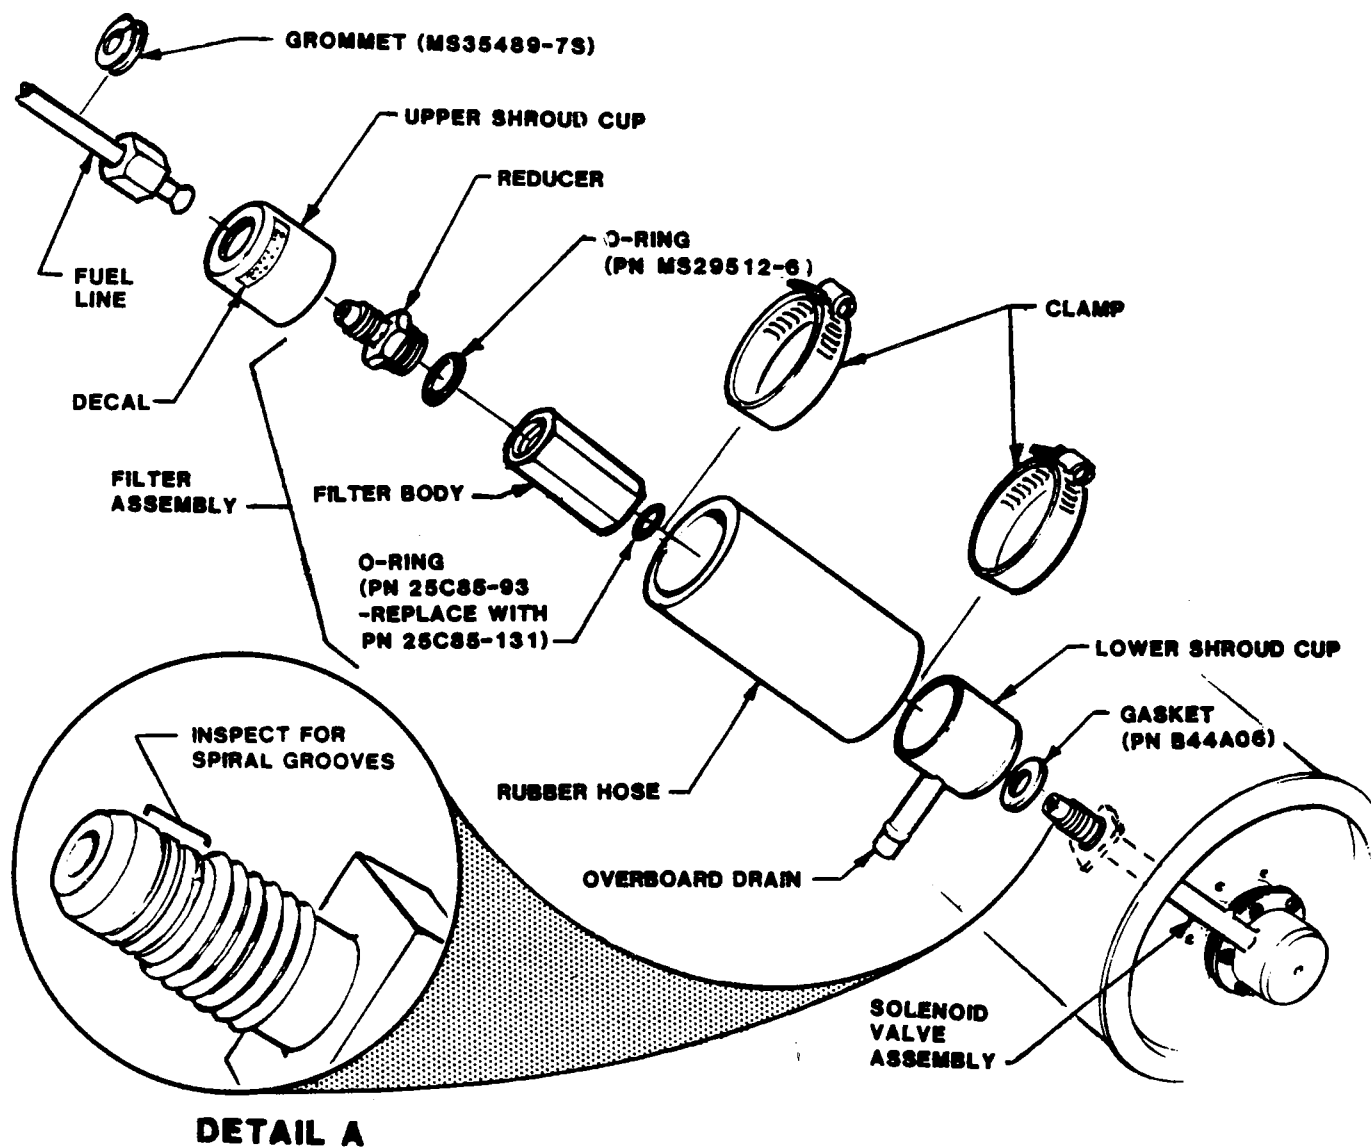

Figure 2. Typical exploded view
PREFACE: The O-ring PN 25C85-93 used in the filter assembly provides a marginal amount of compression. To insure against fuel leakage it is being replaced by O-ring PN 25C85-131 which offers greater compression. Also there was a small percentage of heaters produced with spiral grooves on the end of the fuel feed fitting at the "O" ring sealing surface of the fuel fitting. (See Detail A of Figure 2.) Any fitting with grooves must be replaced in accordance with this bulletin.
- (4) Separate reducer from filter body. Remove and discard O-rings (PN 25C85-93 and PN MS29512-6).
- (5) Carefully inspect end of fuel fitting. (See Detail A of Figure 2.) If grooves are found, the solenoid valve assembly must be replaced to prevent possible fuel leakage. Return to Janitrol Aero for replacement. (See Note 2 at bottom of Page 3.)
- (6) If grooves are found, remove solenoid valve assembly.
- (7) If the solenoid valve assembly is removed it will be necessary to remove gasket (PN B44A06) at heater jacket, then scrape or sand off the Permatex sealer residue from both sides of jacket.
#### D. Reassembly (Refer to Figure 2)